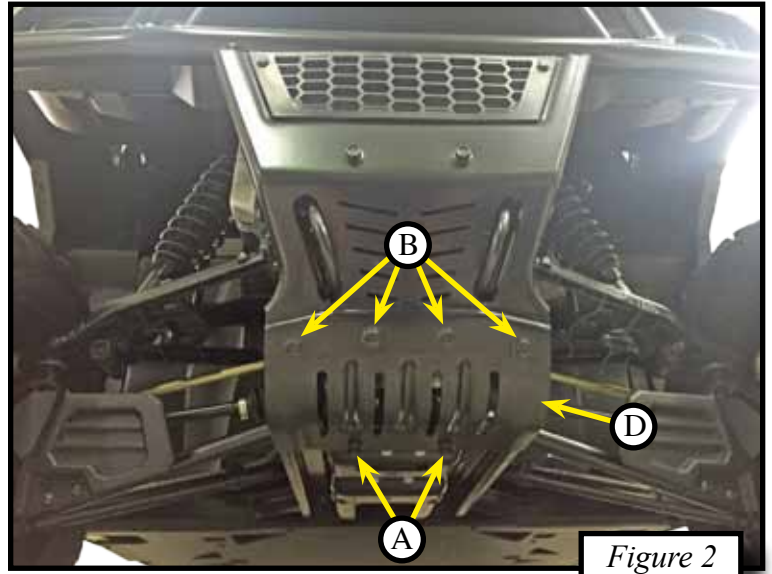

Figure 2
1. Remove the two bolts (A) and four bolts (B) from the factory holes in the bottom of the front lower bumper plate. Shown in Figure 2.